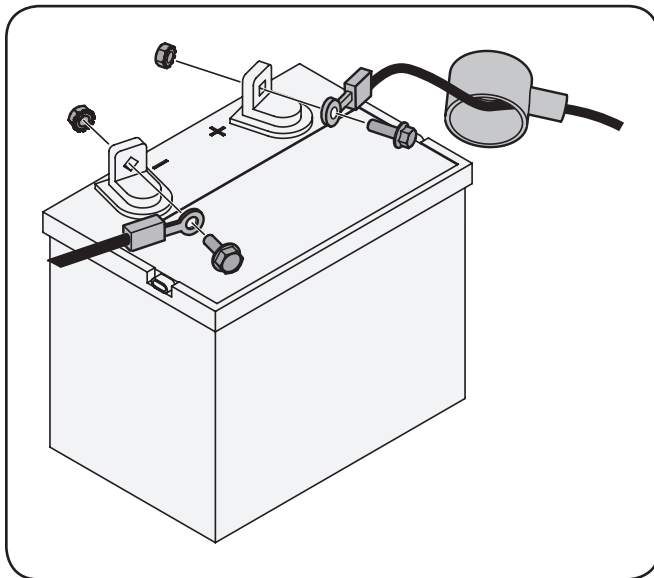

Figure 3-11
2. Remove the red boot, if present, from the positive battery terminal and attach the red cable to the positive battery terminal (+) with the bolt and hex nut. See Fig. 3-11.
4. Attach the black cable to the negative battery terminal (-) with the bolt and hex nut. See Fig. 3-11.